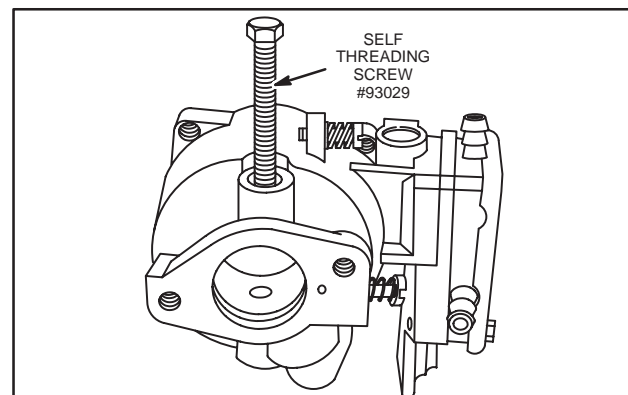

Fig. 19 – Thread Bushing
2. Thread self threading screw #93029 from #19165 flywheel puller into bushing 2-3 turns, then remove it, Fig. 19.